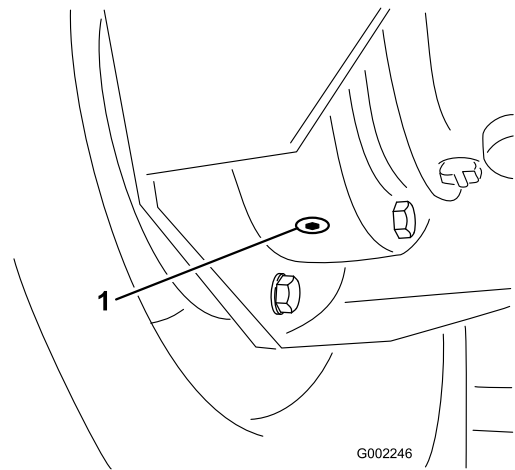

Figure 81
4. Place a pan under the inner drain plug and remove it (Figure 81).